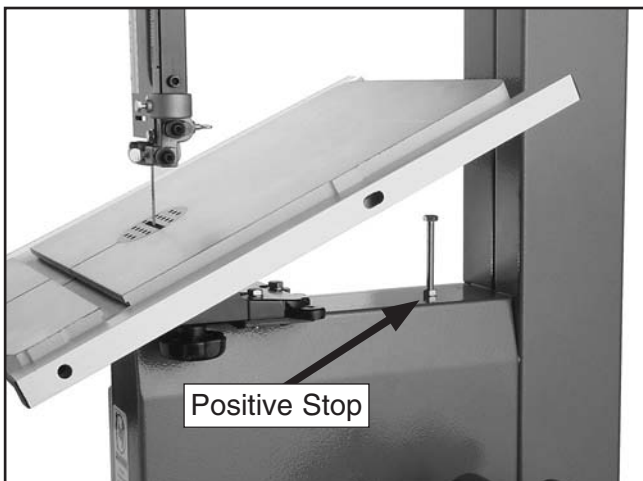

Figure 20. Installed positive stop bolt.
27. Thread the positive stop bolt into the threaded hole on bandsaw body as shown in **Figure 20**.